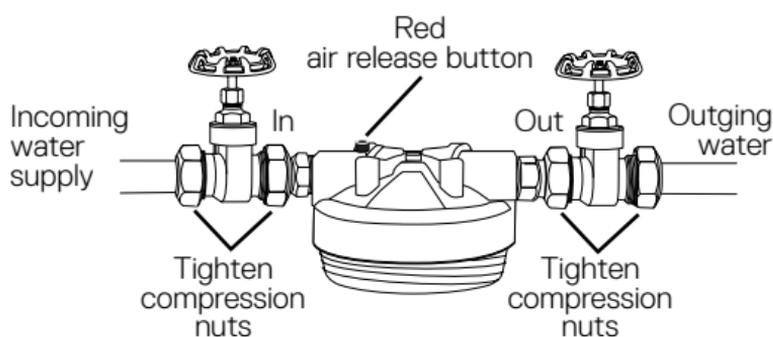

Figure 4
- Fit filter head and gate shut-off valves onto pipe. Make sure the “IN” port with red air release button is connected to incoming water supply line. Tighten compression nuts on both sides of valves (see Figure 4). (Four locations.)